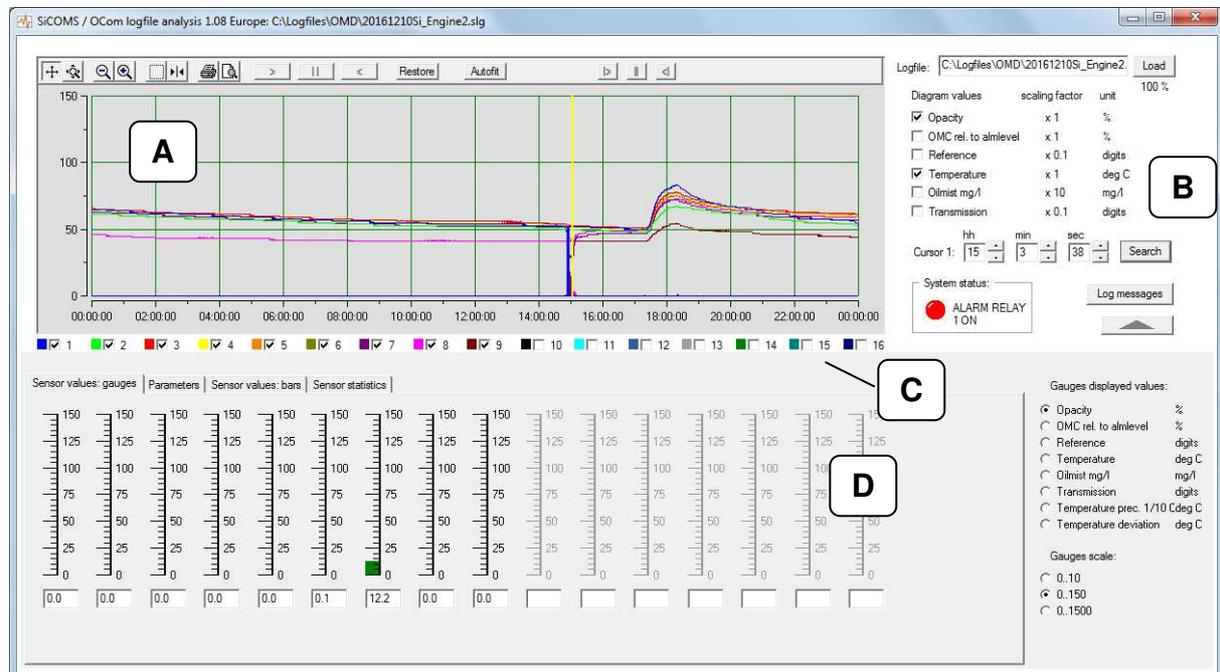

Fig.22. SiCOMS® / OCom logfile analysis window
3.1. XY-diagram (Fig. 22, A)
(Fig. 22, B, C)
The **Diagram values** checkboxes (Fig. 22, **B**) define which OMD measured data should be displayed at the XY-diagram:
Sensor number checkboxes (Fig. 22, **C**) allow to display or hide all measured values for a selected sensor at the XY-diagram:
(Fig. 22, D)